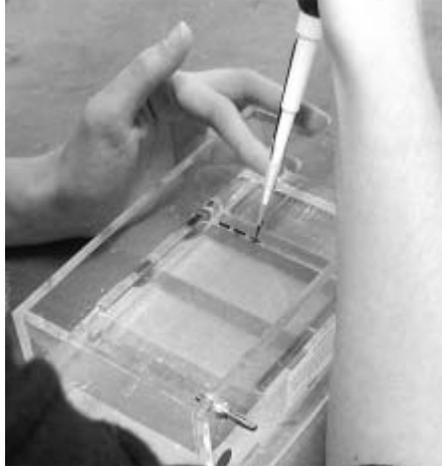

Figure 1. Loading samples into the agarose gel.
- Slowly expel the sample into the well (see Figure 1).